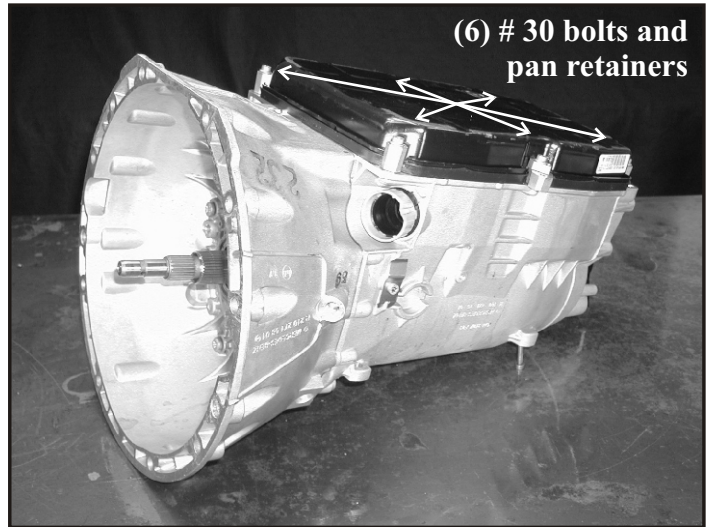

Figure 14
Next, rotate the transmission on it's back and remove (6) # 30 Torx bolts and pan clamp down fixtures (Mercedes calls these spacers "sprags") and then remove the pan (See Figure 14). *When re-attaching the pan, these pan bolts tighten down to 5.9 ft. lbs. (70.74 inch lbs./8 Nm).*